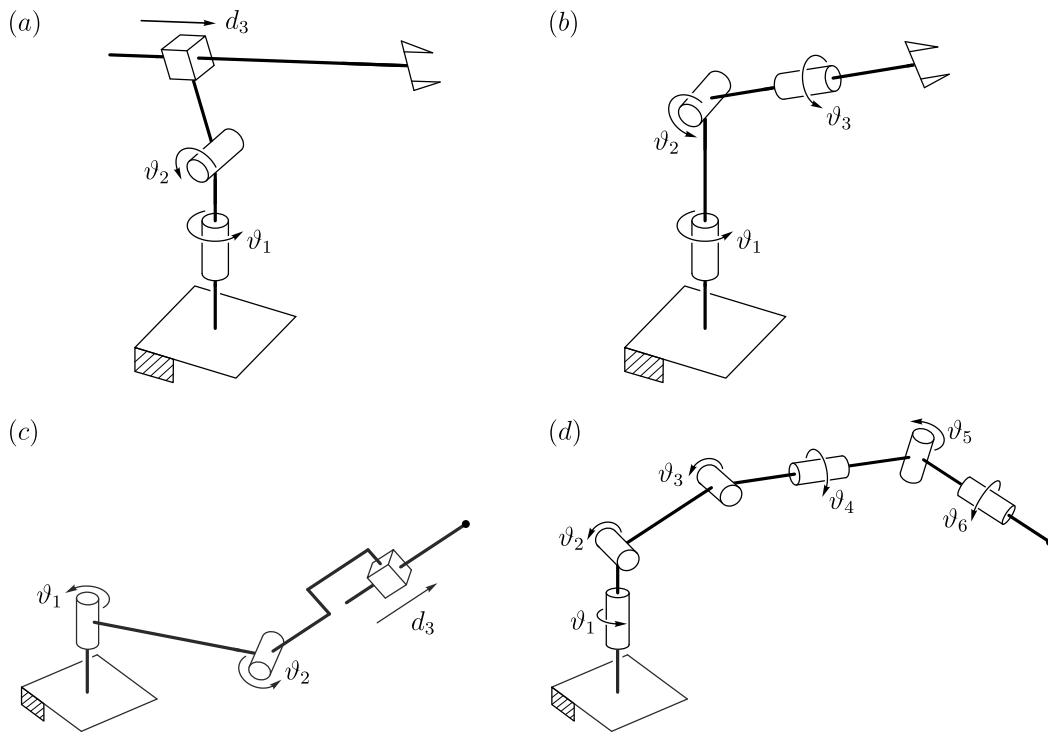

Figure 1: Manipulators. (a) Spherical, (b) Spherical wrist, (c) Toroidal, (d) Anthropomorphic.
2. Consider the manipulators illustrated in Figure 1. According to the Denavit-Hartenberg methodology, place the reference frames over each manipulator, and build the appropriate table of parameters.
4. Solve the direct kinematics for the manipulator illustrated in Figure 1(c).